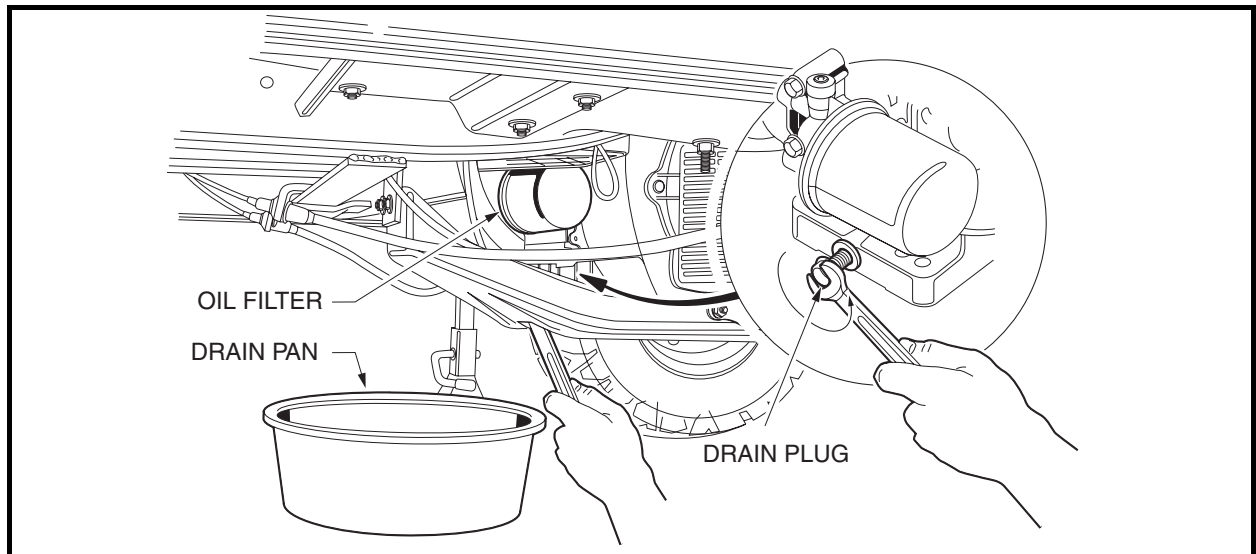

Figure 16 Engine Oil Drain Plug and Pan
4. Position a pan designed for oil changes under the front drain plug (**Figure 16**).
8. Relocate the oil drain pan to a position under the engine oil filter (**Figure 16**).
NOTE: An oil drip guard can be used to prevent excess oil from dripping into the engine base plate. Use an empty quart (one liter) container and cut the bottom off at an angle, then slide the open area of the container up and under the oil filter prior to removing. Position the port of the plastic container so oil will be directed into the oil pan (**Figure 16**). Or, make a drip guard by folding a piece of cardboard, thin metal, or plastic under the oil filter forming a channel to direct the filter port oil into the drain pan.